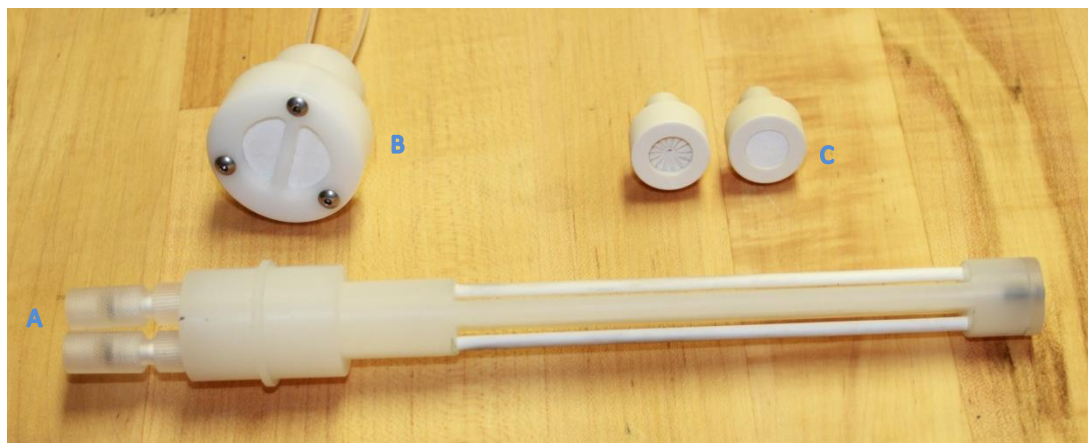

Figure 24: Filter probes
Several filter geometries have been developed and are shown in Figure 24. Probe A has two 8 inch (200 mm) porous tubular filter with a pore size of  $25 \pm 10 \mu\text{m}$ . Probes B will accept any circular 1 inch (25 mm) filter disk. The two semi circles visible are separated internally by a barrier and provide the two filter elements in a single filter disk. Probe C comprises of two filter elements and will accept 0.5 inch (12 mm) filter disks or porous UHMWPE frits (15-45  $\mu\text{m}$  pore size). In the figure one filter is shown without filter element installed (L) and the other (R) has the frit installed.